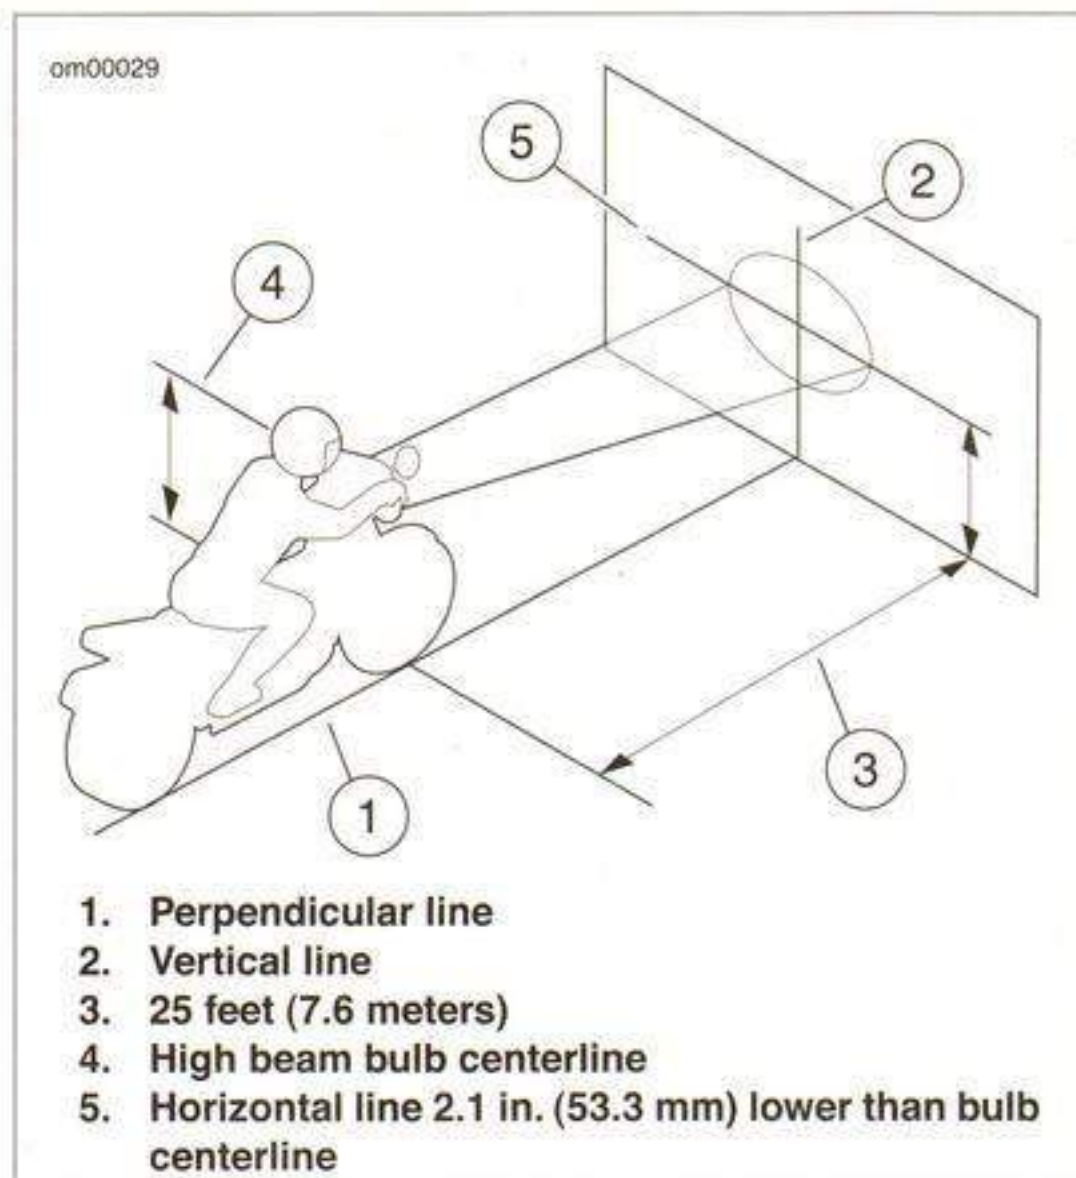

Figure 1-43. Checking Headlamp Alignment
See Figure 1-43. To aid in properly placing the motorcycle, a perpendicular line (1) can be drawn on the floor. For best results, choose an area with minimum light.
3. See Figure 1-43. Draw a vertical line (2) on the wall.
7. See Figure 1-43. Verify headlamp alignment. Turn the ignition switch to IGNITION and set the headlamp switch to HIGH beam.